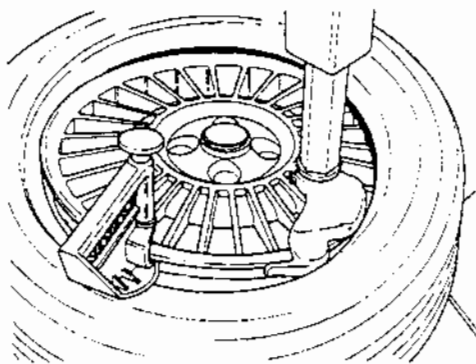

Fig.21
C. Mount the upper bead following the directions in section B. With low profile tires the bead holding clamp (option 66735 Fig.21) can help to prevent the top bead from prematurely seating during the mounting cycle.
D. Lift the tire with both hands so that the upper bead is sealed to the rim edge (Fig.21).